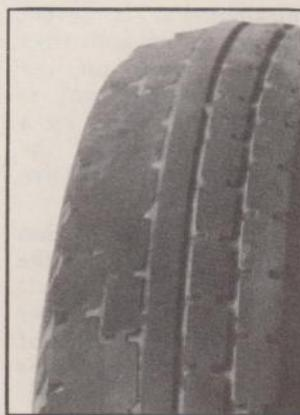

Fig. 2—Tire Wear Due to Improper Camber
1. Wheel camber causes the tire to run at a certain angle from the perpendicular, resulting in side wear. Fig. 2 shows an example of side wear caused by excessive camber. This condi-